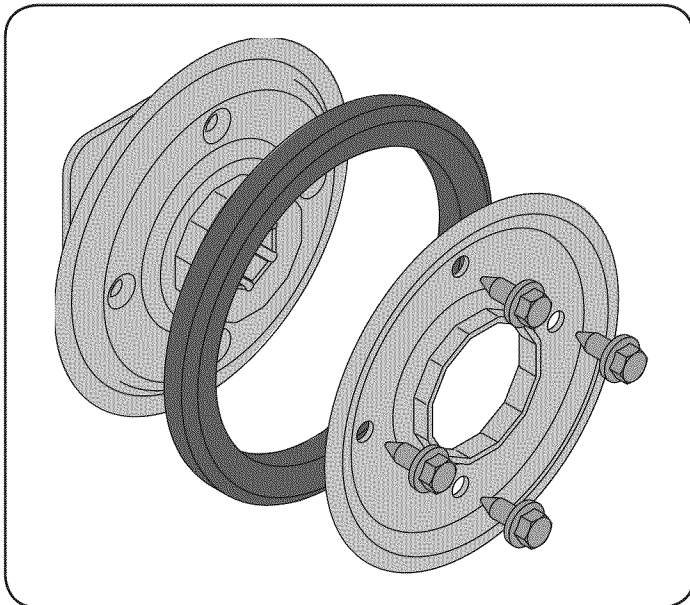

Figure 37
- Remove the four screws which secure the friction wheel's side plates together. See Figure 37.